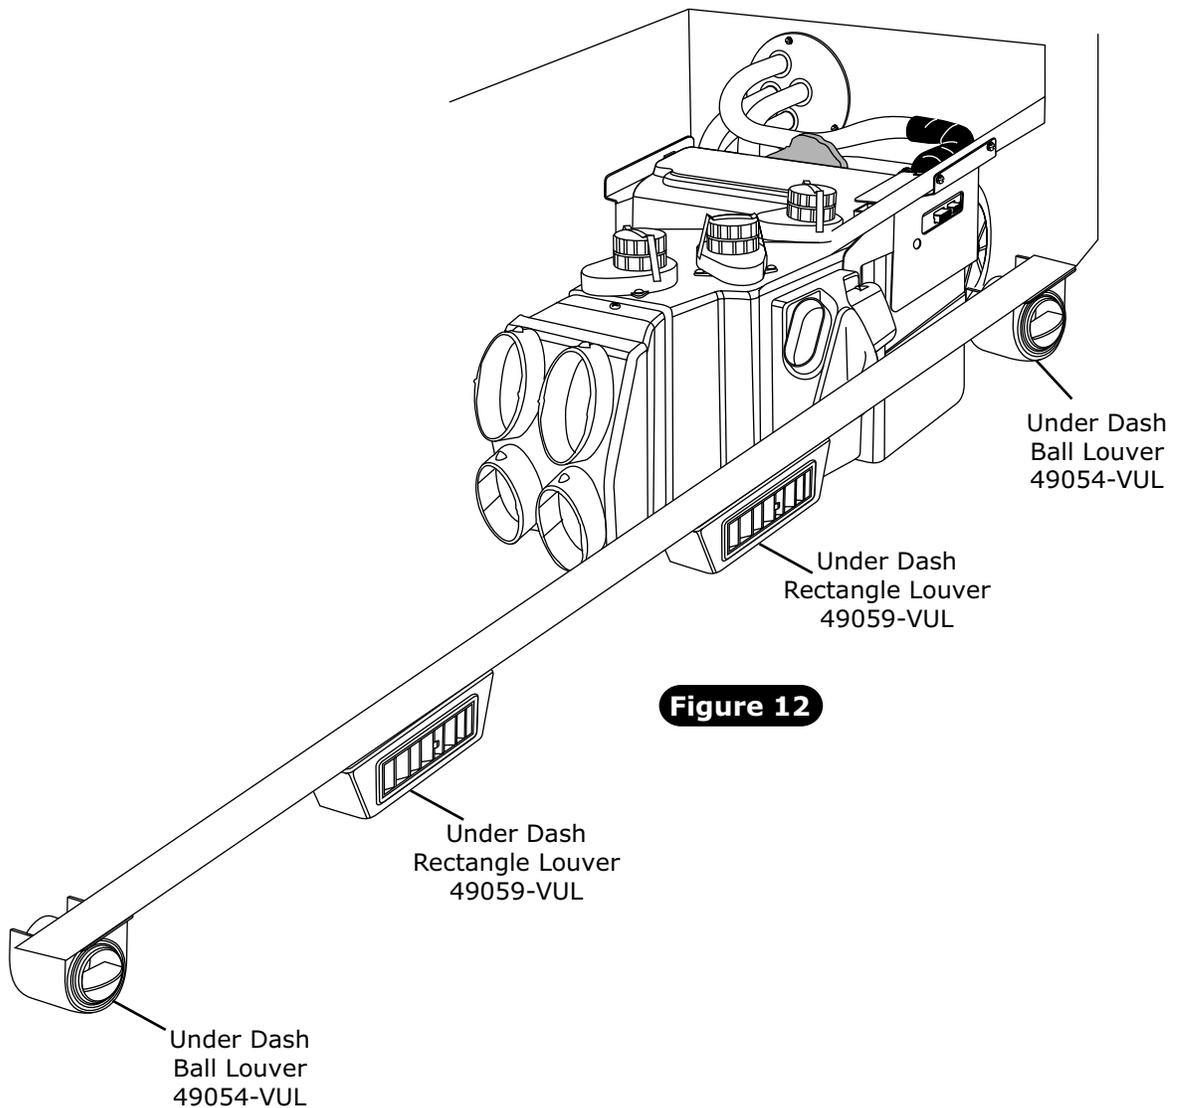

Figure 12
1. Install louvers under dash using (8) #8 x 1/2" Phillips pan head screws (See Figure 12, below).